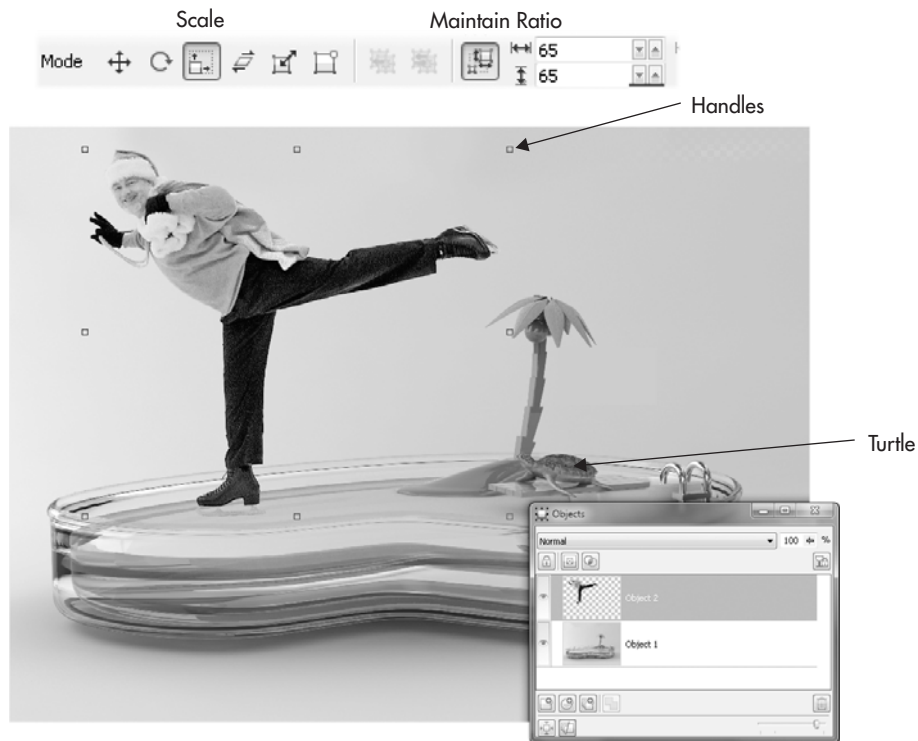

FIGURE 26-7 Use the Transform controls on the property bar for moving, scaling, and rotating an object.
7. You might feel Santa needs a little rotating counterclockwise to look more appropriate—*balanced*, literally and compositionally—within the document. Click the object with the Object Pick tool while Santa is selected to put the object into Rotate/Skew mode, and then drag a corner rotation handle just a little in a counterclockwise direction. Figure 26-7 shows the composition nearing completion.